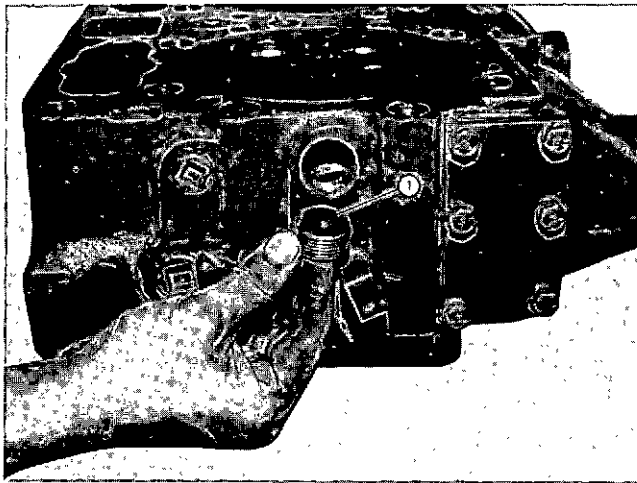

Fig. 2-1-6, V40216. Check fuse plug for overheating
1. Examine fuse plug for signs of overheating. (1, Fig. 2-1-6).